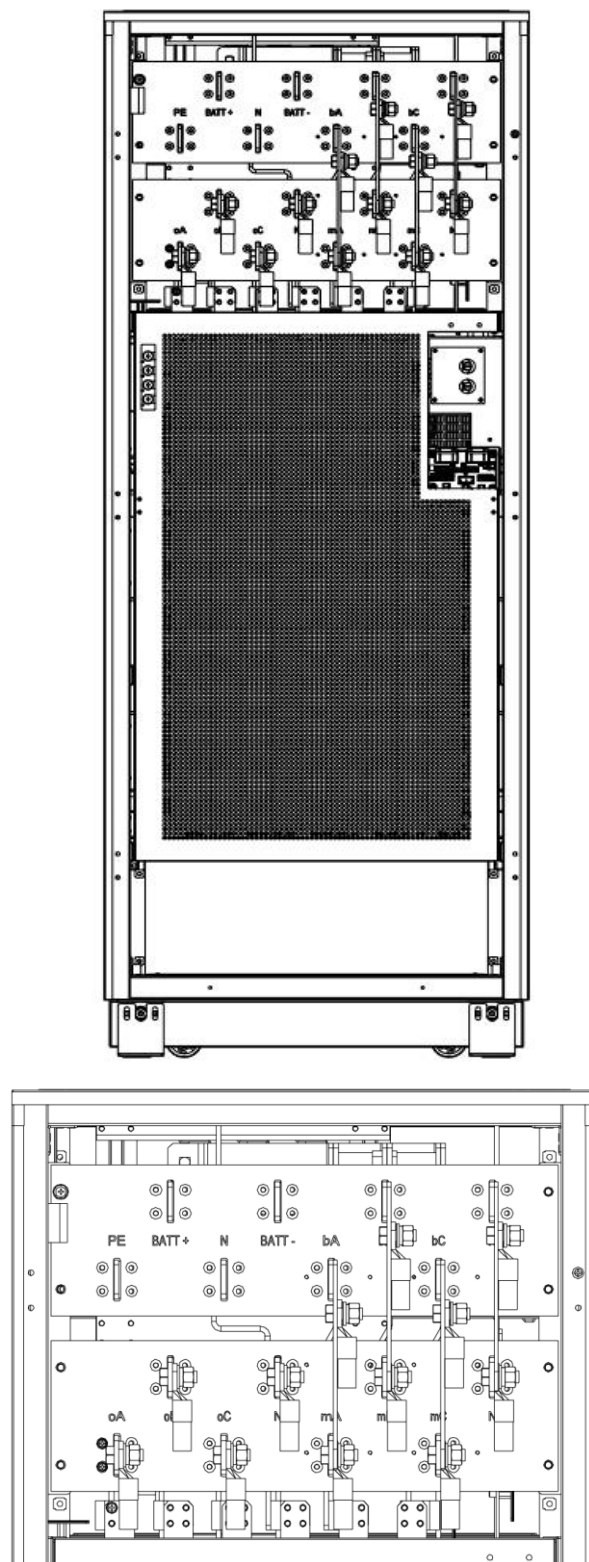

Figure 3-12 Connections terminals
Step 2: Open the back door of the cabinet, remove the plastic cover. The input and output terminal, battery terminal and protective earth terminal are shown in Figure 3-12: